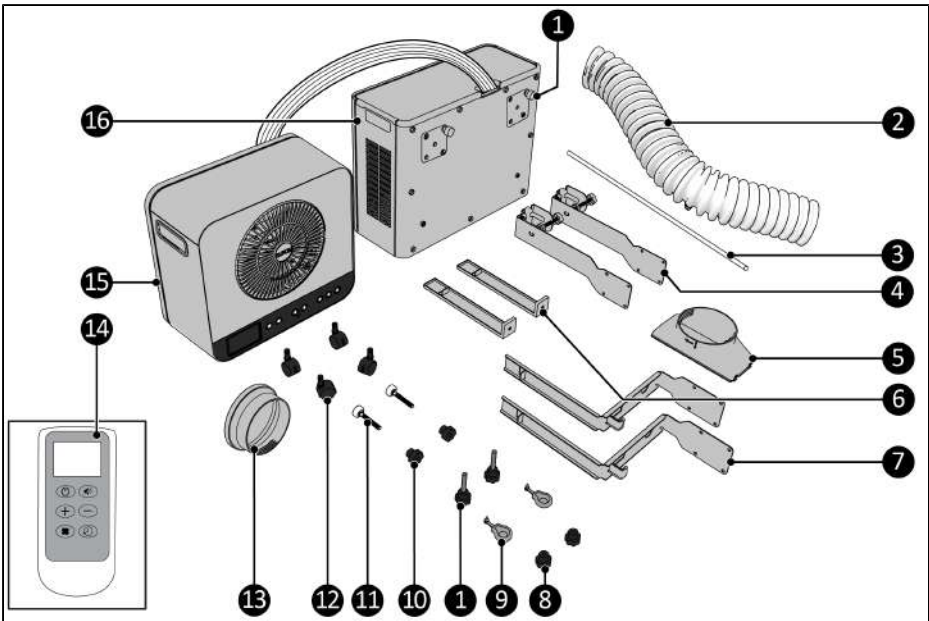
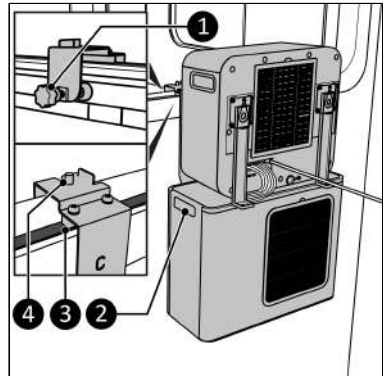
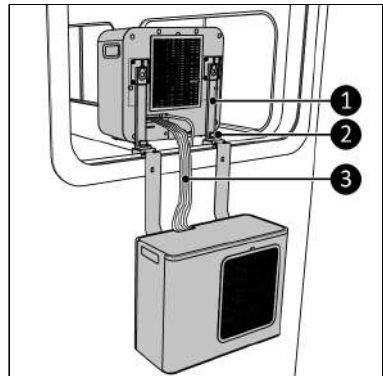

Figure 26.
Figure 33.
Figure 34.
8. Place the complete unit in the window using the side handles of the outdoor unit (Figure 33, pos. 2). Make sure the gray blocks are in the window seal.
9. Tighten the bolts (Figure 33, pos. 1) hand tight on the caravan.
10. Make sure you have the screw caps (Figure 26, pos. 8) within reach for the threads on the bracket (Figure 33, pos. 4).
11. Lift the indoor unit through the window and place the hooks (Figure 34, pos. 1) on the threaded end (Figure 34, pos. 2).
12. Tighten the screw caps (Figure 26, pos. 8) on the threads (Figure 34, pos. 2).
14. The refrigerant hose (Figure 34, pos. 3) is guided between the indoor- and outdoor unit. Avoid bending the refrigerant hose in smaller bends than 30 mm.